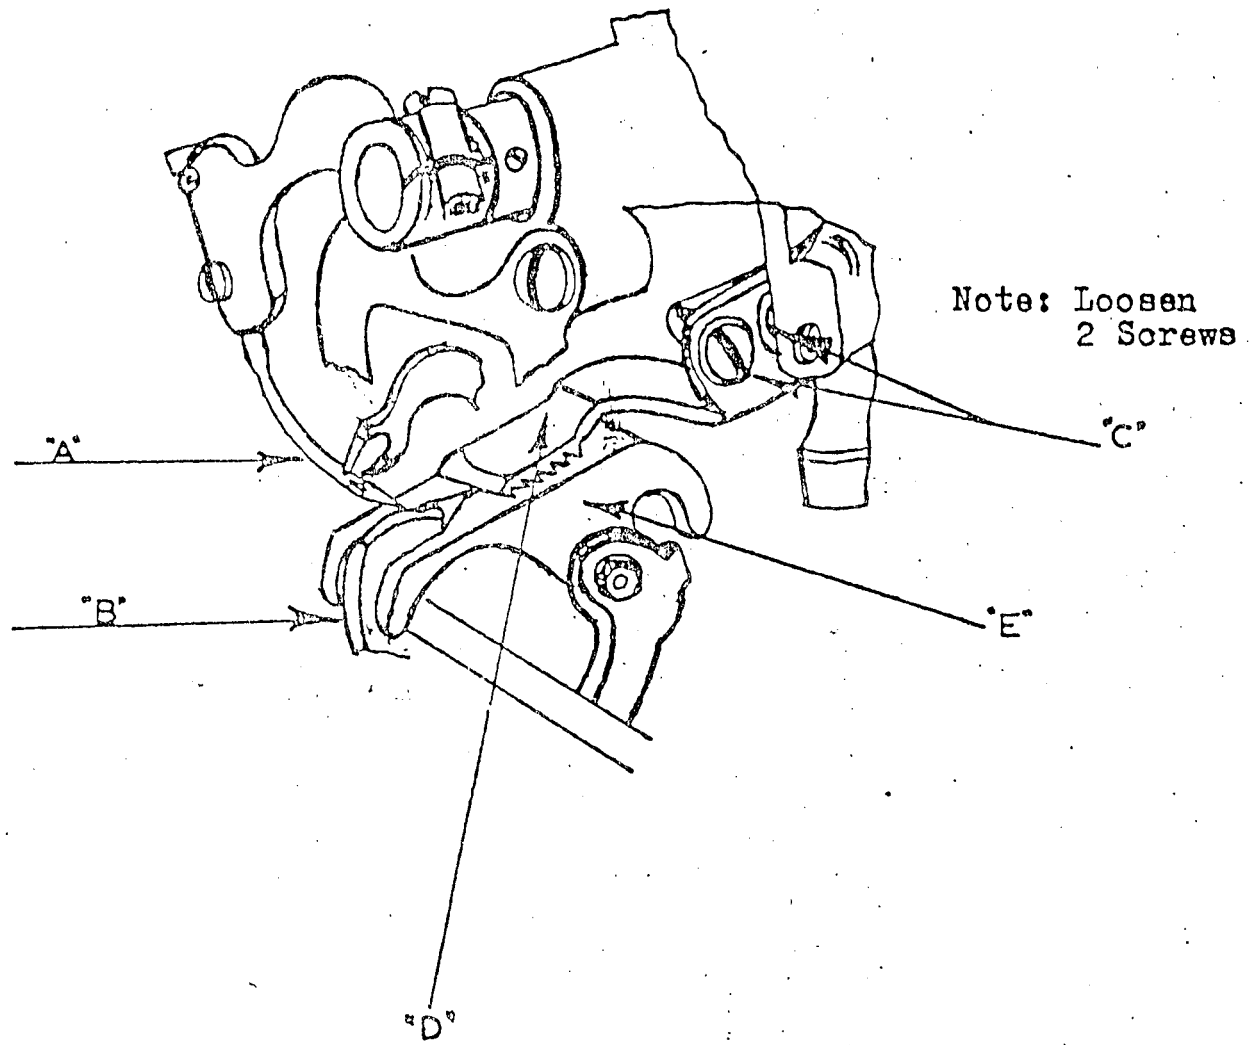

FIG. 25.
- Step No. 1 Turn hand wheel clockwise to bring needle point in line with top of rib "B" Fig. 25 page 27.
- Step No. 2 Turn hand wheel clockwise until the feed dog comes forward to its full stroke and loosen the two screws "C" Fig. 25 Page 27.
- Step No. 3 Turn hand wheel clockwise $\frac{1}{2}$ turn to bring needle "A" Fig 25 in line with top of rib "B" as shown at Fig. 25.
- Step No. 4 With index finger of left hand, apply pressure on feed dog "D" exactly where the indicating arrow is located at Fig. 25 over feed dog "D".